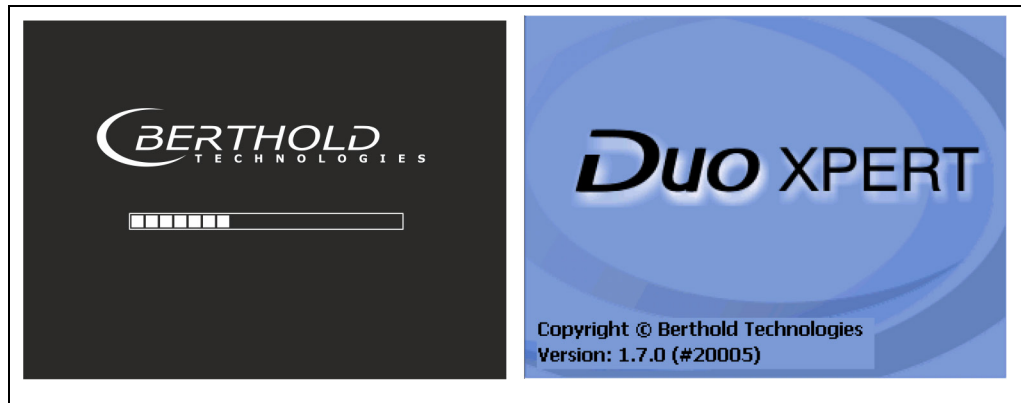

Fig. 14 Start screens with display of the software version
1. Loosen the four sunken screws on the front side of the EVU (Fig. 14, item 1).
2. Pull out the housing (Fig. 14, item 2) carefully.
3. Slide the switch (Fig. 14, item 3) to position **a** for "active" (SOURCE), to position **p** for "passive" (SINK).
5. Screw the front panel to the housing (Fig. 14, item 2) with the four screws (Fig. 14, item 1).